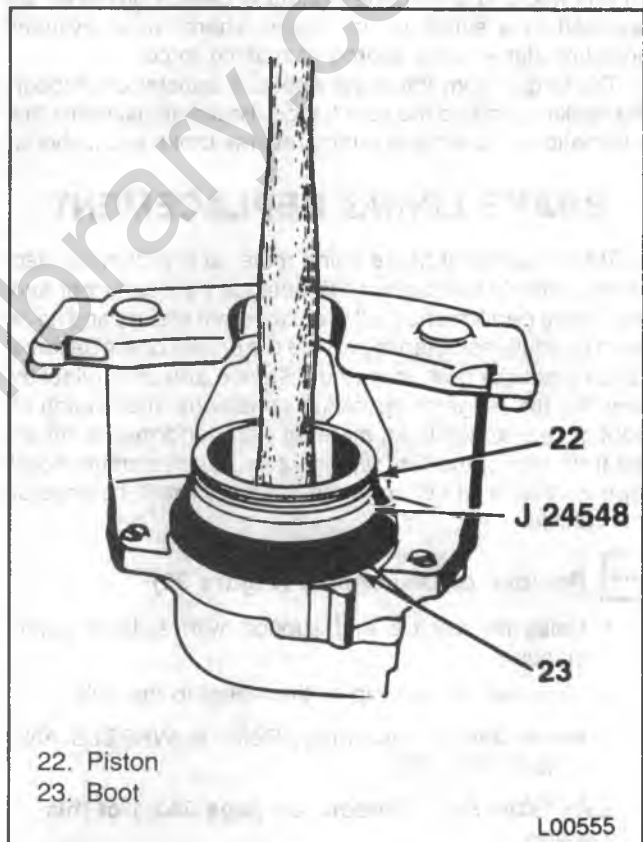

Figure 21 — Installing Calliper Piston
1. Piston seal (21).
2. Boot (23) on J 24548.
4. Piston (22) inside J 24548 (figure 21).
6. Bleeder valve (20).